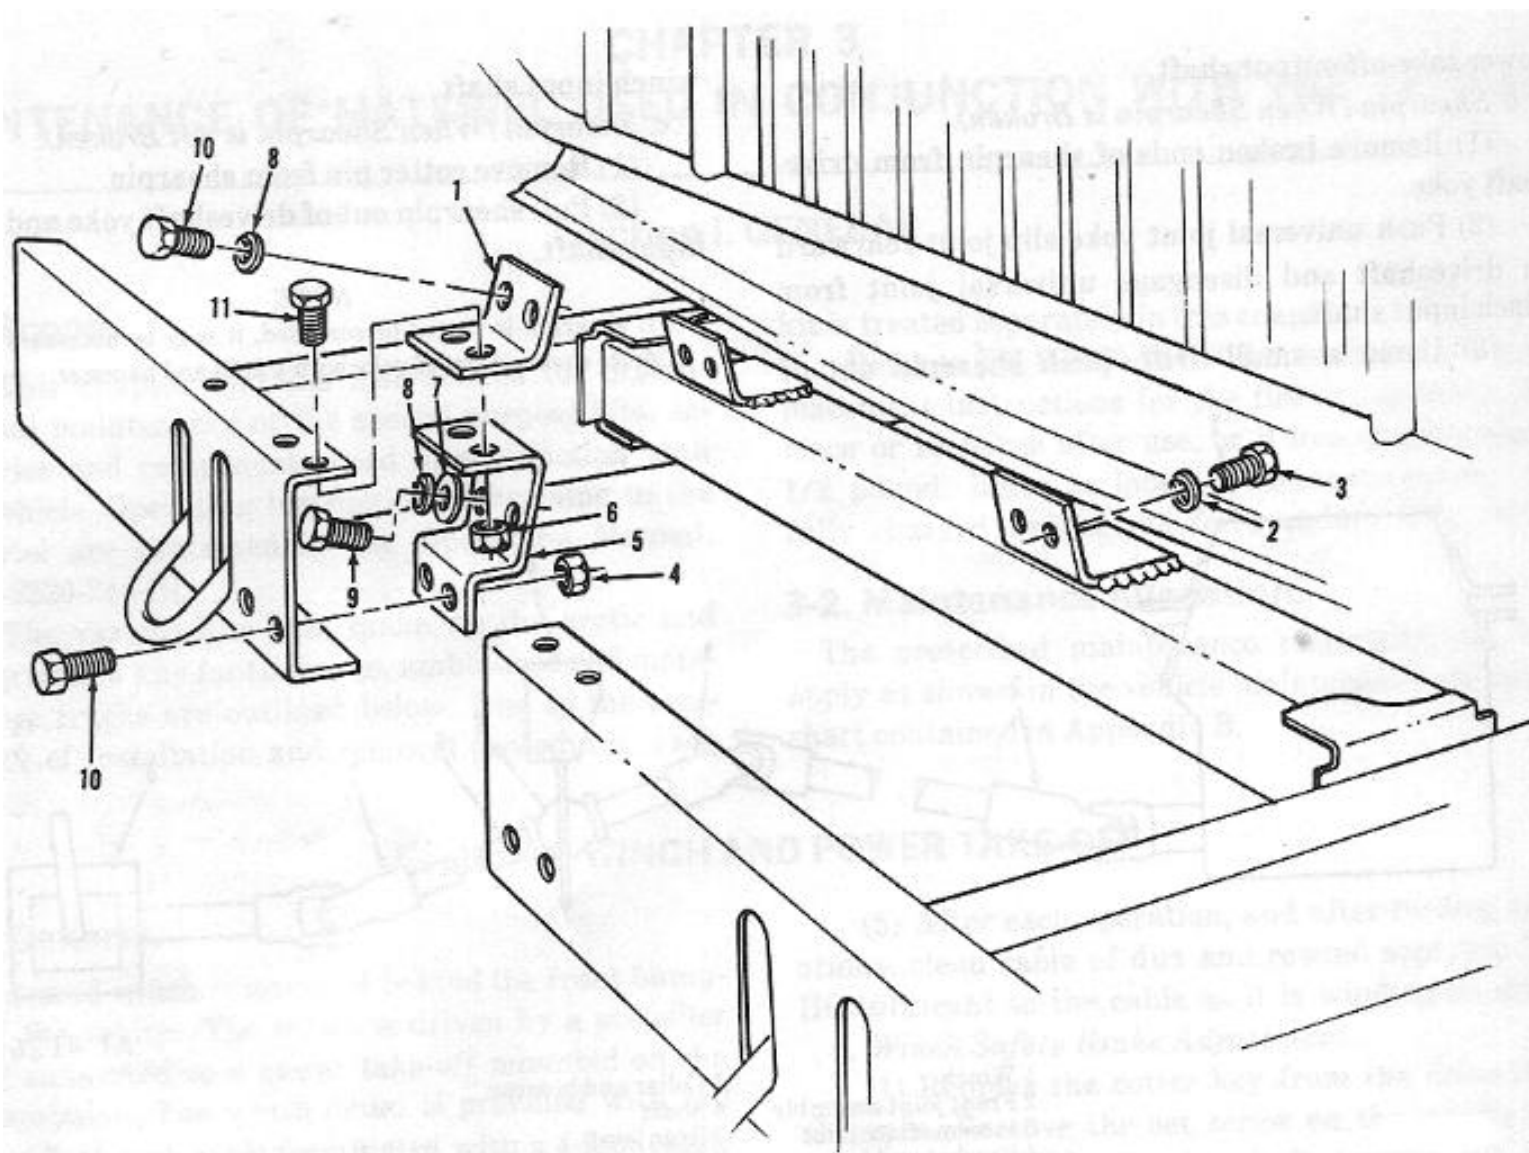

Figure 3-2. Winch mounting brackets.
- (1) Place winch control in disengaged position and completely unwind cable from winch drum.
- (2) Loosen cable setscrew which secures cable to drum and remove cable.
e. Winch and Mounting Brackets. (Fig 3-2)
- (1) Remove winch driveshaft as described in (a) above.
- (2) Support winch assembly with a jack or other suitable lifting device.
- (3) Remove six bolts and lock washers which secure winch to rear mounting bracket.
- (4) Remove towing shackles; remove eight bolts, nuts and lock washers securing front bumpers to winch brackets. Remove eight bolts, nuts and lock washers securing bumper side rails to frame.
- (5) Lower jack and remove winch and front mounting brackets from vehicle.
- (6) Remove nuts, bolts and lock washers which secure front mounting brackets to winch assembly.
- (1) Apply a thin film of engine oil to winch drum surface.
- (2) Insert cable through winch rollers and around the drum at the rear.
- (3) Insert cable through hole in drum and secure with setscrew.
- (4) Wind cable under load, applying CW-11C lubricant to the cable as it winds on drum. Refer to paragraph 3-4c for method of applying CW-11C lubricant.
d. Winch and Mounting Brackets. (Fig 3-2)
- (1) Position rear mounting bracket to frame assembly; install bolts, nuts and lock washers and tighten.
- (2) Install front brackets, bolts and lock washers into winch worm gear housing outer bolt holes, and tighten.
- (3) Support winch on jack or other suitable lifting device and raise into position.
- (4) Install six bolts and lock washers and secure rear bracket and winch assembly. Tighten bolts securely.
- (5) Install eight bolts, lock washers and nuts through front brackets and front bumpers. Tighten all eight attaching bolts. Install bolts, nuts and lock washers securing side rail extensions to frame. Tighten bolts securely.
- (6) Remove jack or lifting device.
- (7) Connect winch driveshaft as described in (a) above.